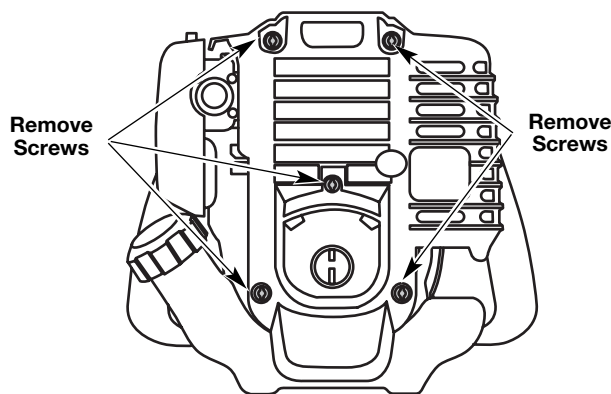

Fig. 35
6. Remove the five (5) screws on the back of the engine cover with a Flat-blade or T-25 Torx screwdriver (Fig. 35).
7. Remove the engine cover (Fig. 35).
1. Stop the engine and allow it to cool. Remove the five (5) screws on the back of the engine cover with a Flat-head or T-25 Torx screwdriver (Fig. 35).